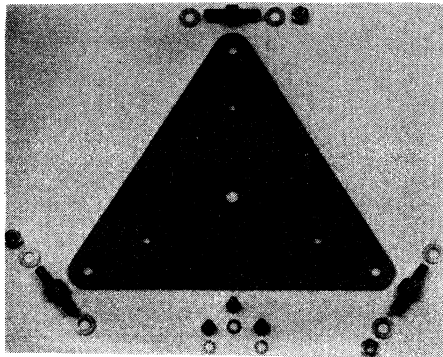
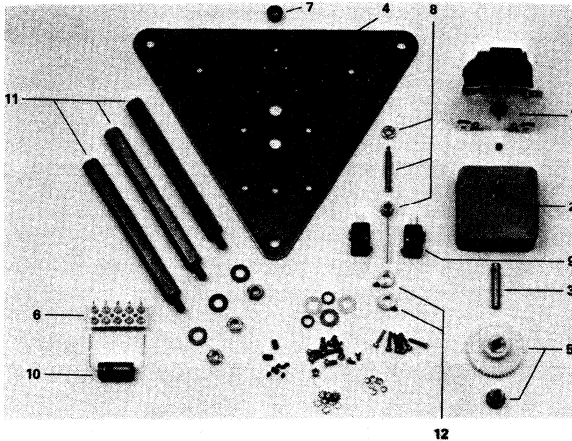

Fig. 29 Example of components of ganging unit;
Fig. 31 Example of components of motor drive kit;
- A) For **mechanical ganging** order ganging unit (Fig. 29) and spindle; see columns 4 and 5 of the table.
- B) For **motor drive of single transformers** order base plate assembly (Fig. 30) and motor drive kit (Fig. 31); see columns 6 and 7 of the table.
For **motor drive of ganged transformers** order ganging unit (Fig. 29), spindle, base plate assembly (Fig. 30), if required, and motor drive kit (Fig. 31); see columns 4, 5, 6 and 7 of the table.